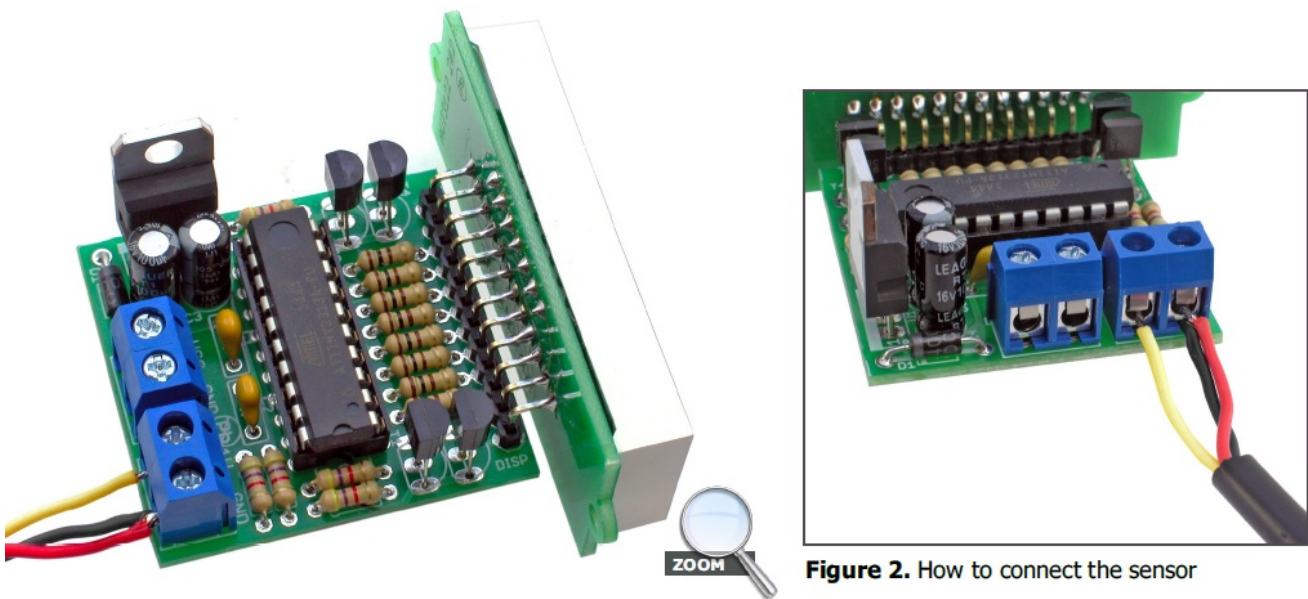

Figure 2. How to connect the sensor
- The next step is to attach the temperature sensor. For this purpose use a screw connector mounted on the PCB: the yellow sensor cable is connected to the 1W pin the black and red cables are shorted and connected to the pin marked GND. The way of attaching a temperature sensor is shown in Figure 2.